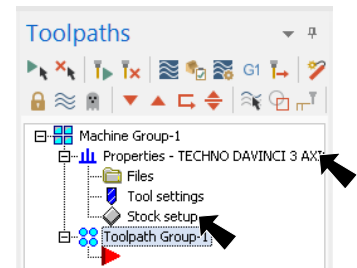

Fig. 37
Fig. 37 on the Machine tab **MACHINE**, click Machine **Mill** > Default from the menu.
Step 3. Expand **Properties** in the Toolpaths Manager and click **Stock Setup**, **Fig. 37**.